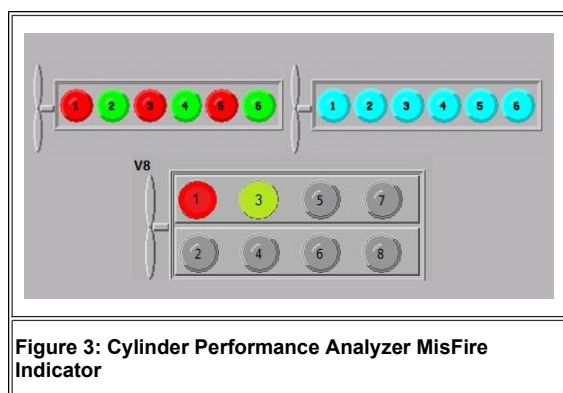

Figure 3: Cylinder Performance Analyzer MisFire Indicator
3. With the CPA tool, perform the standard "Signal Check." After passing the signal check, begin recording the engine data during the time of the misfire complaint (Cold Idle or Hot Idle). The same standard misfire display follows the same rules as the DT, 9 and 10 Engines and can be seen in Figure 3.